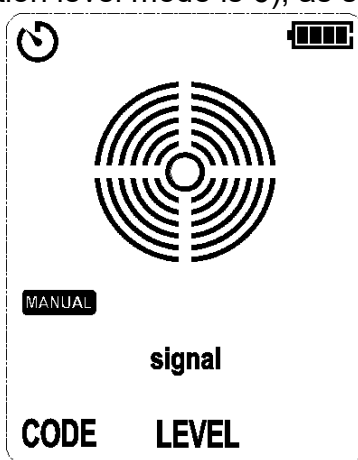

Figure 6.2.1b Manual Mode
- Power on the receiver and then it enters MANUAL mode (default reception sensitivity: 6), as shown in Figure 6.2.1b.